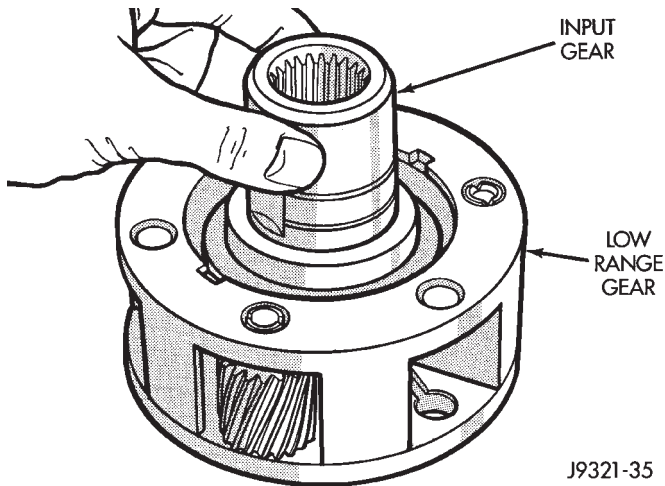

Fig. 38 Input Gear Removal
(4) Remove input gear (Fig. 38).